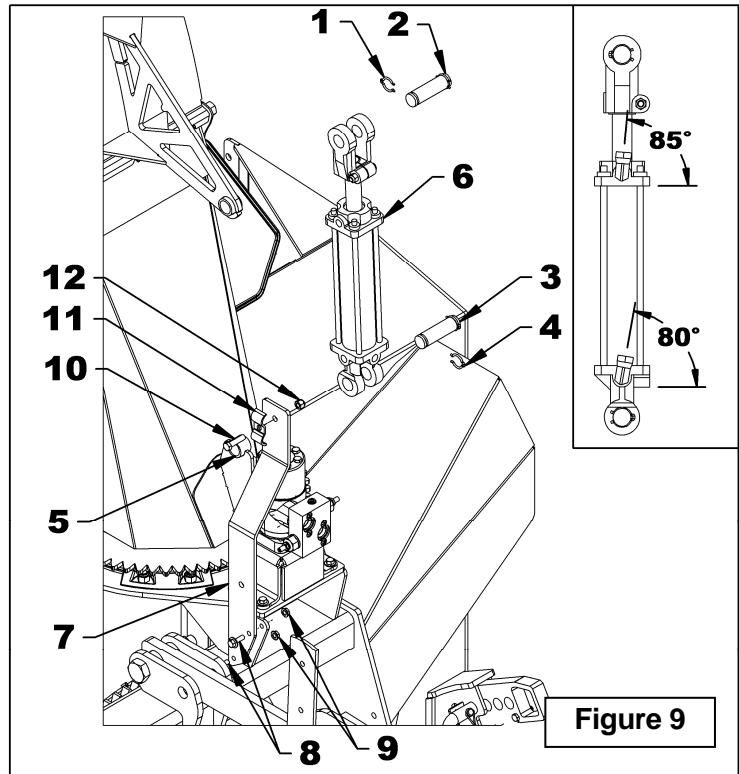

Figure 9
1. **Figure 9:** Remove a circlip (items 1-4) from each cylinder pin (items 2-3) and remove the pins. Placing the hydraulic ports in the position shown on figure, attach the fixed end of the cylinder (item 6) to the chute base (item 5) and the rod end to the deflector with the pins and circlips.
2. **Figure 9:** Install the male end of the two elbow flow restrictors on the cylinder ports, pointing up the outputs and at the angles shown in figure.
5. **Figure 9:** Install the hose support (item 7) using two 5/16"NC x 1" serrated flange bolts and 5/16"NC serrated flange nuts (items 8-9).
6. **Figure 9:** Attach the hose clamp (item 11) with a 3/8"NC x 1 1/2" bolt and 3/8"NC nut (items 10 & 12). Do not tighten.